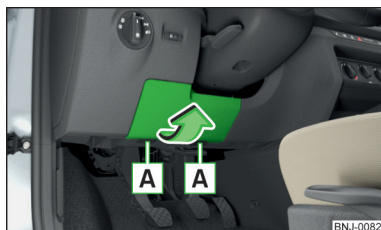

Fig. 201
- Remove the cover of the fuse box » Fig. 201 in the direction of the arrow.